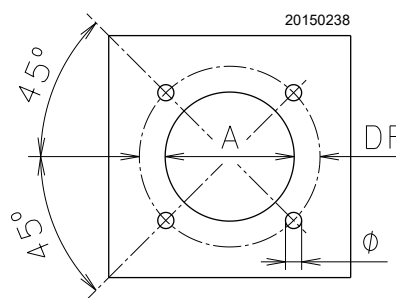

Fig. 14
Drill the combustion chamber locking plate as shown in Fig. 14. The position of the threaded holes can be marked using the thermal screen supplied with the burner.
- Fit the entire burner onto the boiler hole prepared previously (Fig. 14), and fasten with the screws supplied.